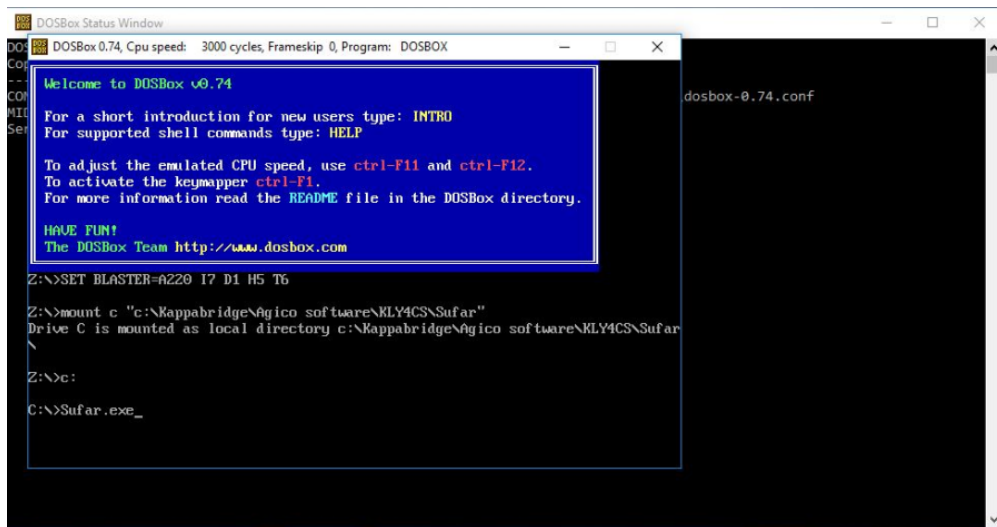

Figure 8. DOSbox.exe with commands for opening Sufar entered
- c. Open DOSbox.exe: In the DOSbox 0.74 window that opens, the cursor should be flashing behind the prompt `Z:\>`. All commands will be entered following a prompt of this type. **Figure 8** illustrates what the screen will look like after all commands have been entered.